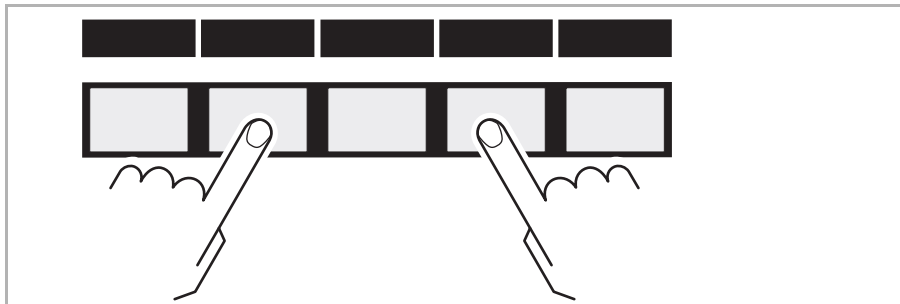

Fig. 8-3 Start the IM 540 with enabled test mode
- 3 Keep the second and the fourth button pressed (Fig. 8-3, 213) and switch the IM 540 on